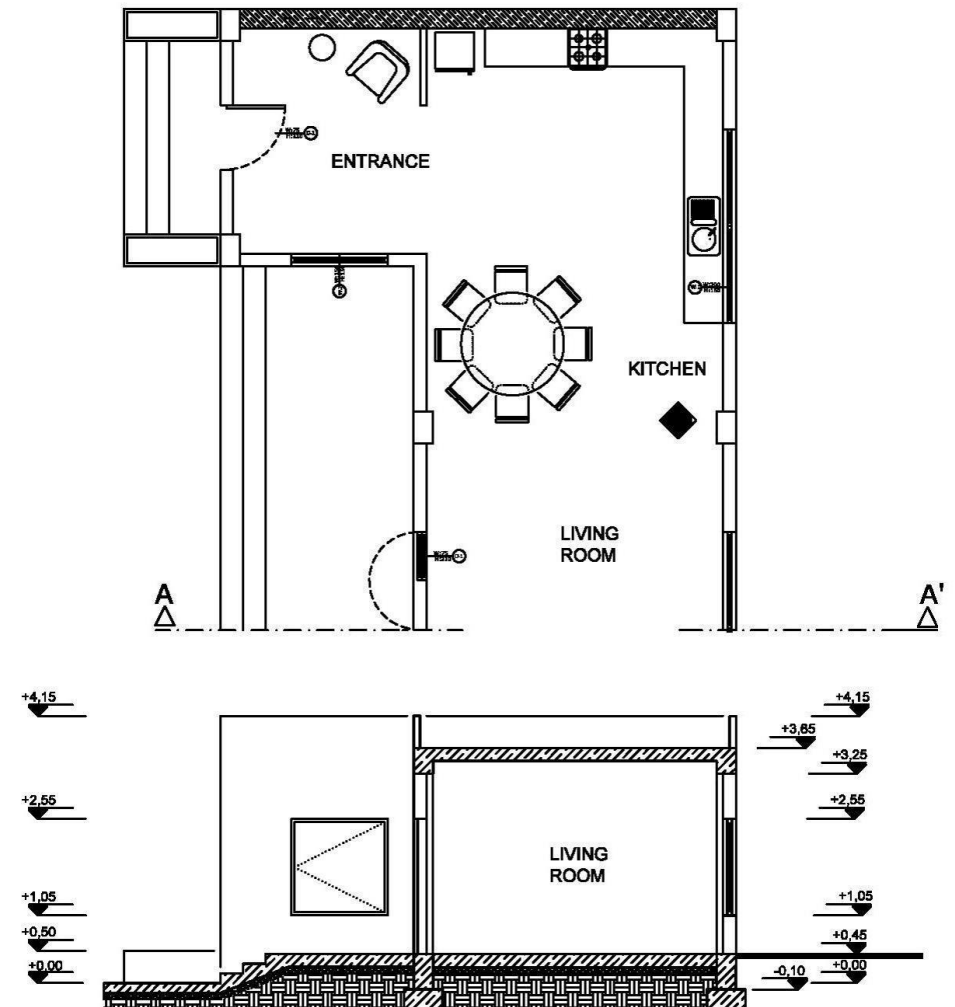

Fig.3.1. Section Example
- Draw ground line with thick line. (Fig.3.1.)
- Indicate space names. (Fig.3.1.)
- Draw level indicators. (Fig.3.1.)
!!! **To** floor level indicator, always give them in relation to level 0.00 (Fig.3.1.)